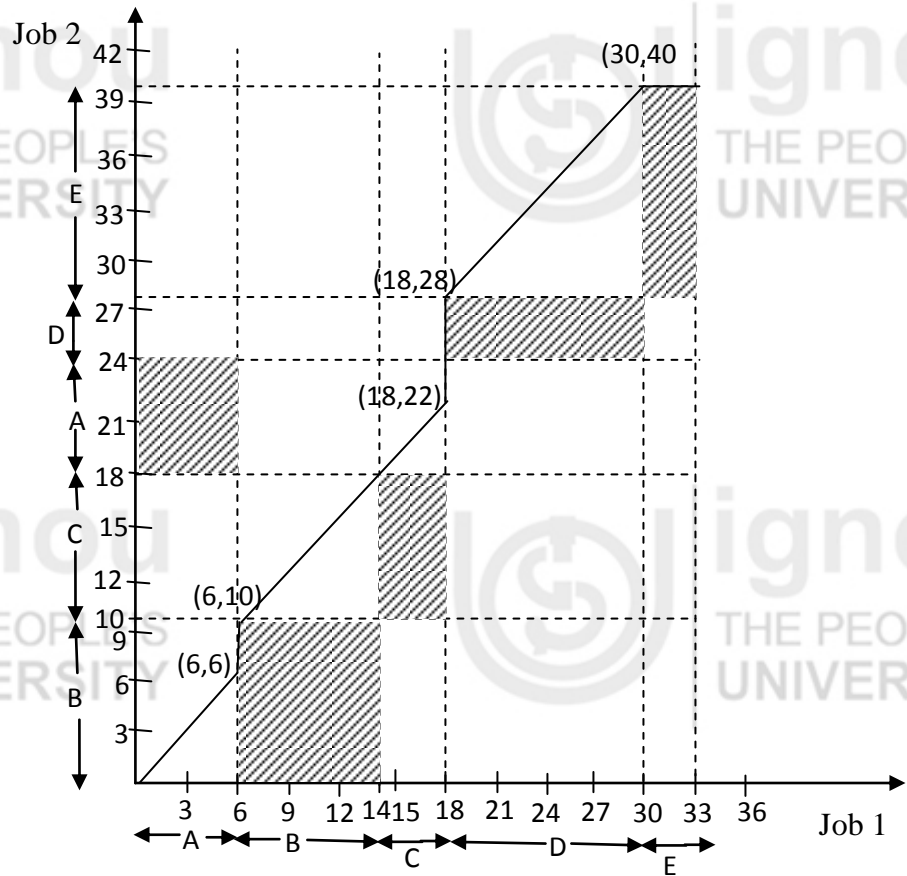

Fig. 7.3
- E4)** Let us draw a set of axes at right angle to each other where the x-axis represents the processing time of job 1 on different machines while job 2 remains idle and the y-axis represents the processing time of job 2 while job 1 remains idle. We draw vertical/horizontal lines through processing times as shown in Fig. 7.3 and shade the common area for each machine.